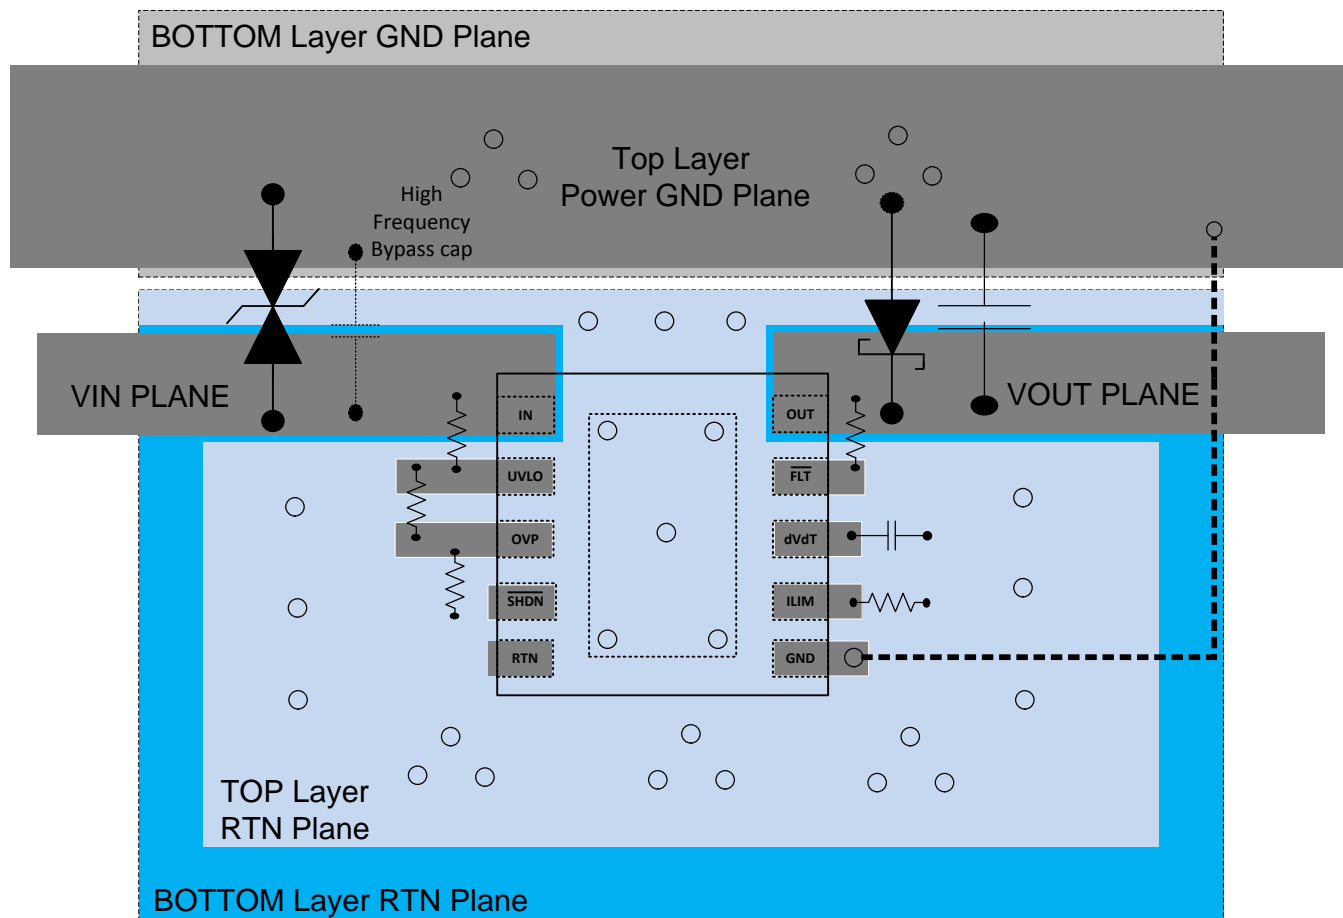

图 8. Typical PCB Layout Example With a 2 Layer PCB
- The optimum placement of decoupling capacitor is closest to the IN and GND terminals of the device. Care must be taken to minimize the loop area formed by the bypass-capacitor connection, the IN terminal, and the GND terminal of the IC. See Figure 8 for a typical PCB layout example.